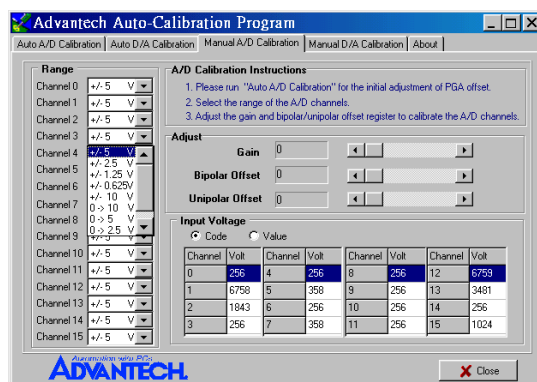

Figure 5-15: Selecting Input Range in Manual A/D Calibration panel
Step 1: Click the *Manual A/D Calibration* tab to show the A/D channel manual calibration panel. Before calibrating, acquire the reference voltage from a precision standard voltage reference. Go to the **Range** form, select a channel and the target voltage range according to the input voltage value from a precision standard voltage reference(Fig. 5-15).